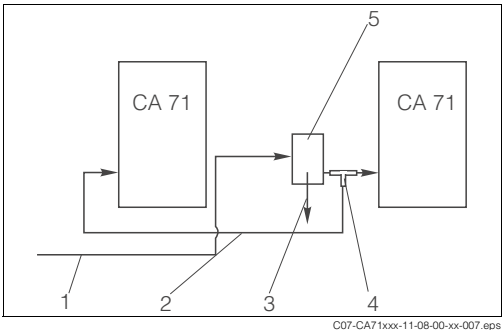

Fig. 10: Installation example
- Distance between the analyzers as short as possible: sampling line between T-piece and the second analyzer (Fig. 10, item 2) shorter than 1.5 m